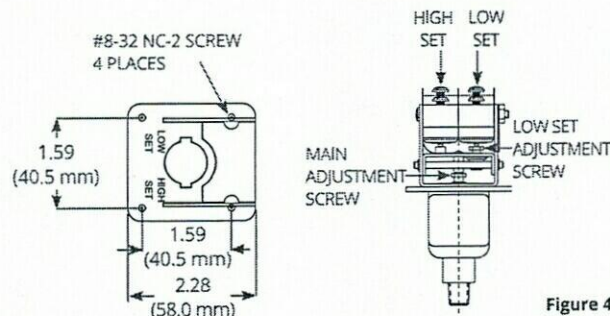

Figure 4
ON DUAL SWITCH UNITS, "LOW SET" SWITCH MUST ALWAYS BE SET EQUAL OR BELOW THE "HIGH SET" SWITCH (SEE FIGURE 4).
- ① Using a 1/4" open end wrench, slowly turn the main adjustment screw counterclockwise until the "High Set" switch transfers. If switch does not transfer, turn the main adjustment screw clockwise until the switch transfers, and then counterclockwise until it transfers again. The "High Set" switch should now transfer on "pressure rise."
- ② If it is desired that the switch transfer on "pressure fall," turn the main adjustment screw clockwise until the switch transfers again (see Figure 4).
- ① Using a 1/4" open end wrench, slowly turn the main adjustment screw clockwise until the switch transfers. If switch does not transfer, turn the low set adjustment screw counterclockwise until the switch transfers, and then clockwise until it transfers again. The "Low Set" switch is now set to actuate on "pressure fall."
- ② If it is desired that the "Low Set" switch transfers on "pressure rise," turn the low set adjustment screw counterclockwise until the switch transfers (see Figure 4).